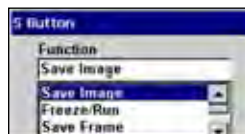

Figure 5-64 Sample S Button dialog box
2. Press **Y/a** to open the drop-down list (Figure 5-64).